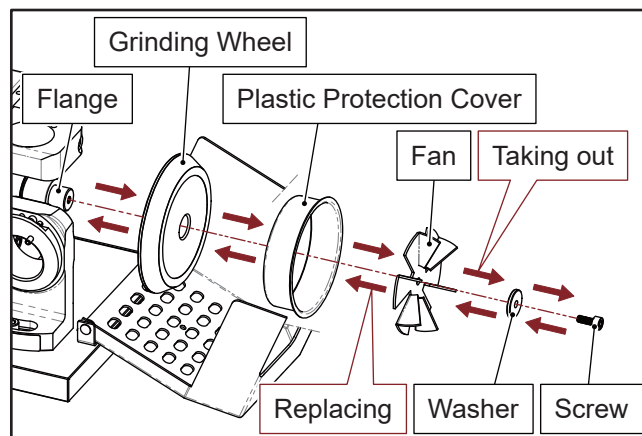

Fig. 10-3
④ Loosen the screw from the grinding wheel to take off the grinding wheel. (Fig. 10-3)
⑤ Use clean cloth to clean the flange and the contact surface of the grinding wheel.
⑥ Replace the new grinding wheel and fasten the screw. (Fig. 10-3)